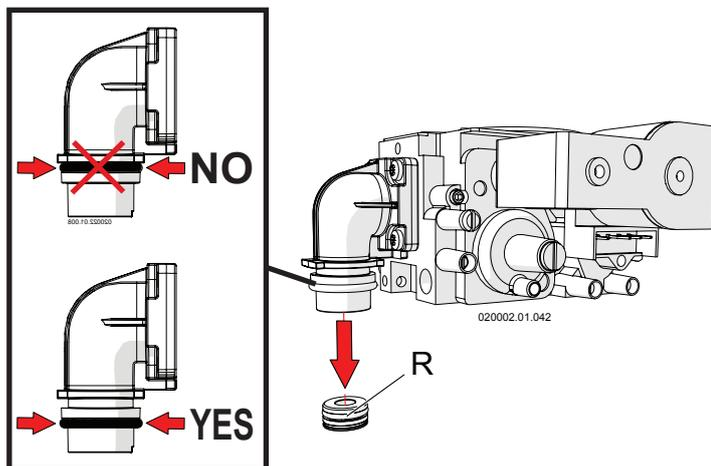

Figure 6-4 – Replacing the gas nozzle
10. - Replace gas nozzle “R” (see figure 6-4) with an appropriate one according to figure 6-6 under “Gas nozzle diameter”;